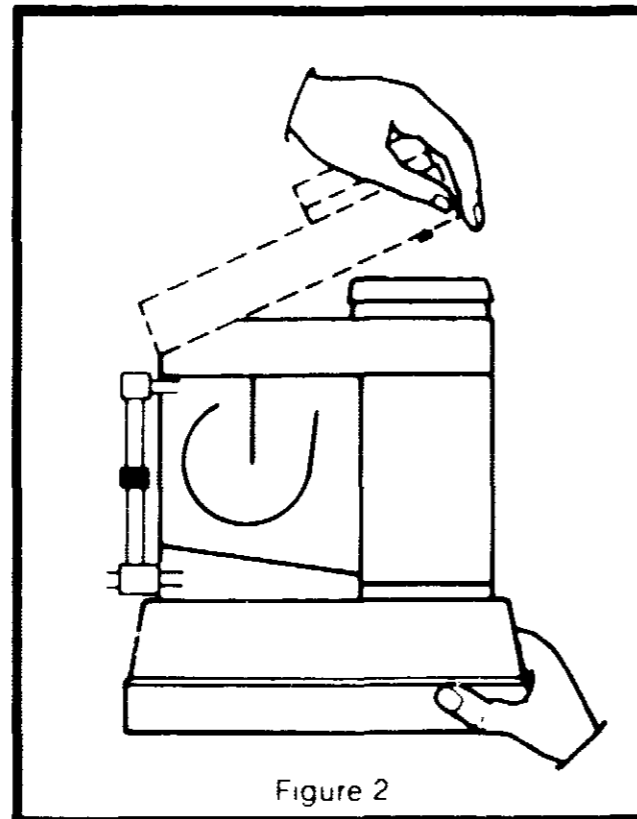

Figure 2
1. Hold Base with one hand at Pellet Container end. Remove feeder body cover by applying sharp upward pressure at Pellet Container end with other hand. (Figure 2.)